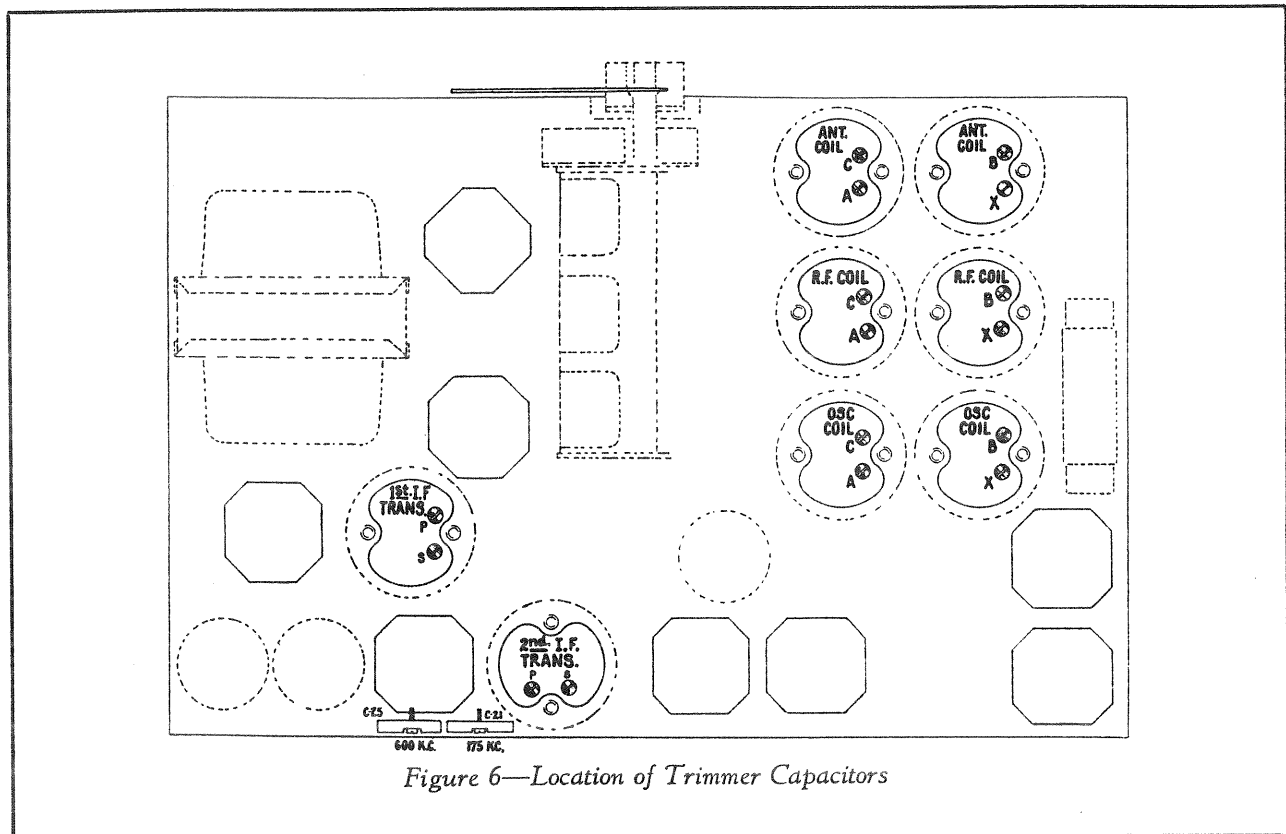

Figure 6—Location of Trimmer Capacitors
- (c) Refer to Figure 6. Adjust each trimmer of the I. F. transformers until maximum output is obtained. Go over the adjustments a second time.
Figure 6 shows the location of the trimmers for each band. Care must be exercised to only adjust the trimmers in the band under test.
- (c) Shift the external oscillator frequency to 175 K. C. Tune in the 175 K. C. signal irrespective of scale calibration and adjust the series trimmer, marked 175 K. C. on Figure 6, for maximum output, at the same time rocking the variable tuning capacitor. Then readjust at 410 K. C. as described in (b).
- (c) Shift the external oscillator frequency to 600 K. C. Tune in the 600 K. C. signal, irrespective of scale calibration, and adjust the series trimmer, marked 600 K. C., on Figure 6, for maximum output, at the same time rocking the variable tuning capacitor. Then readjust at 1,720 K. C. as described in (b).